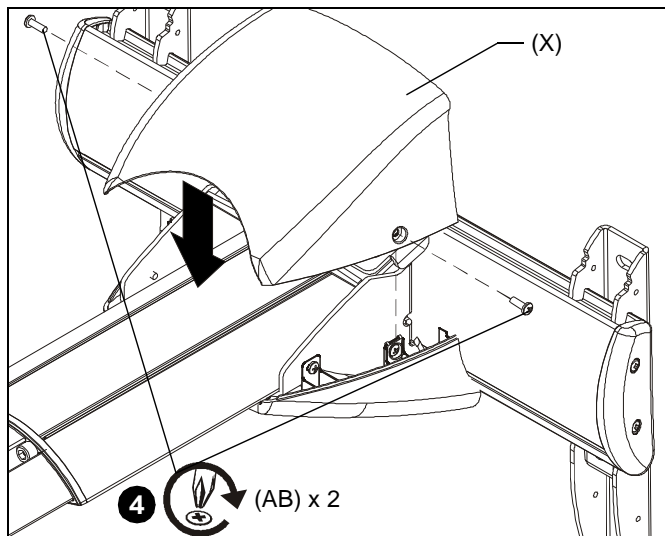

Figure 24
- Lower the upper cover (X) onto the wall mount and lower cover, and fasten with two 8-32 x 3/8" Phillips pan head screws (AB). (See Figure 24)